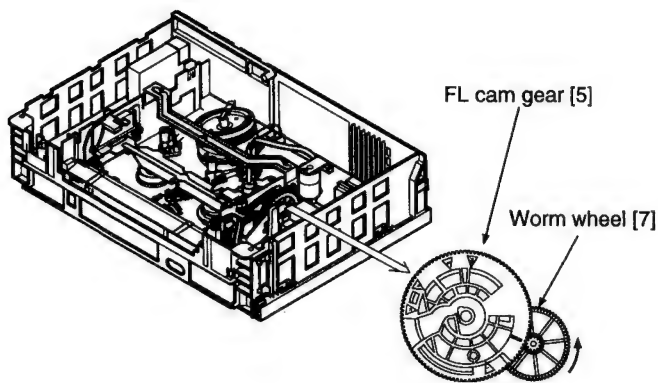

Fig. 1-4-4
- Remove the worm gear holder and the worm gear, and turn the worm wheel to unloading direction shown in Fig. 1-4-4 with a screw driver etc. (Refer to Item 1-6-7).